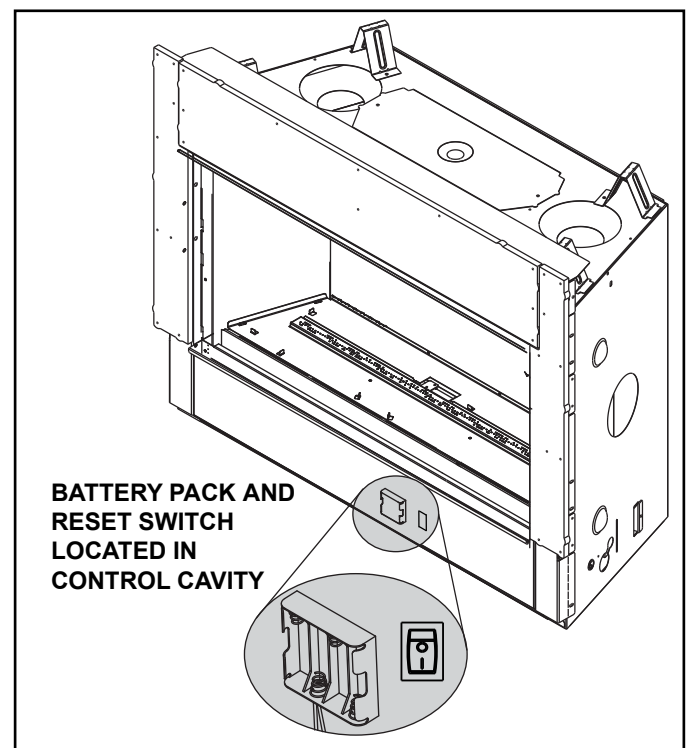
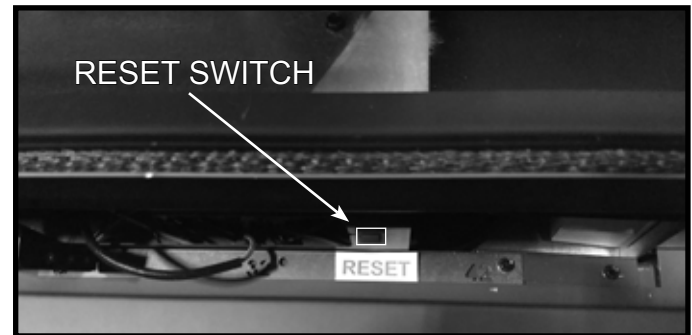

Figure 3.8 Battery Pack Location/Control Cavity
Figure 3.10 Reset Switch Location
The IntelliFire® Touch intermittent pilot ignition system comes with a battery backup system that enables the system to operate in a power outage. The system offers seamless transition from household AC power to battery backup. A factory-installed battery pack is located in the control cavity of the appliance. See Figure 3.8. Battery longevity and performance will be affected by long term exposure to the service temperatures of this appliance.
1. The battery pack is located in the control cavity of the appliance. To access the control cavity of the appliance Remove the decorative barrier front and glass assembly. See Section 4 for instructions on glass assembly removal. See Figure 3.8 for location of battery pack.
2. Locate the battery pack and remove it from the control cavity. It is held in place by hook and loop fastener. Insert four AA cell batteries. Battery polarity must be correct or module damage will occur. See Figure 3.8. A complete wiring diagram is included in the Electrical section of the appliance Installation Manual.
The appliance has a reset switch located inside the control cavity. See Figure 3.8 and Figure 3.10 for approximate location.
- Locate reset switch inside the appliance. See Figure 3.10. Switch is located above the "RESET" label. Hold reset switch down for one second and release. A "beep" will signal module is reset.